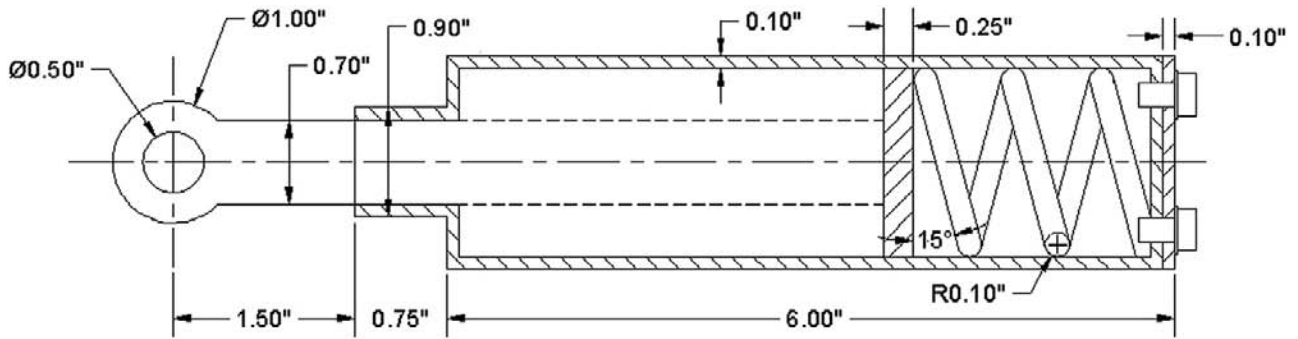

FIGURE 8.14
Step 12. Finally add dimensions and a title block by simple use of rectangles, as seen in Figures 8.14 and 8.15. The title block and its contents are typical of a mechanical engineering drawing.